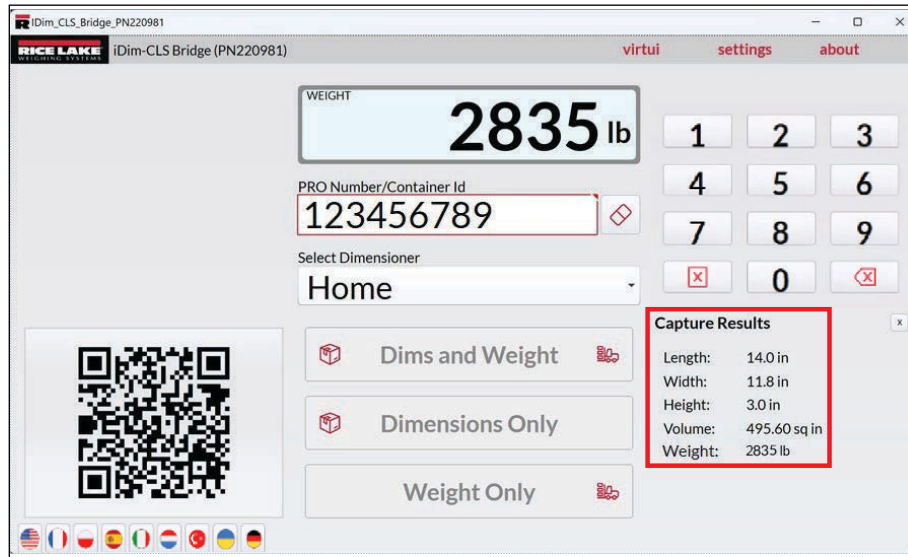

Figure 5-4. Weight Results as Numerical Data
- **As Text:** Shows weight results as numerical data. (see Section Figure 5-4. on page 16)